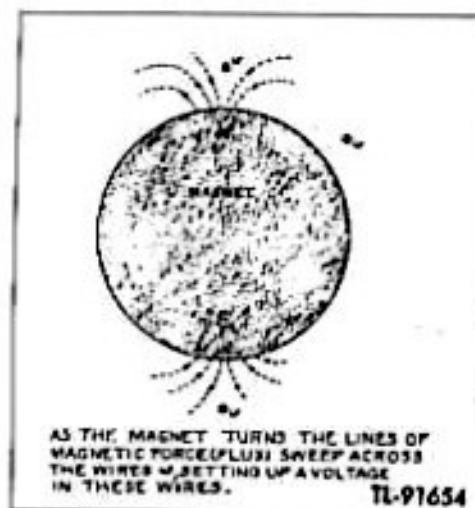
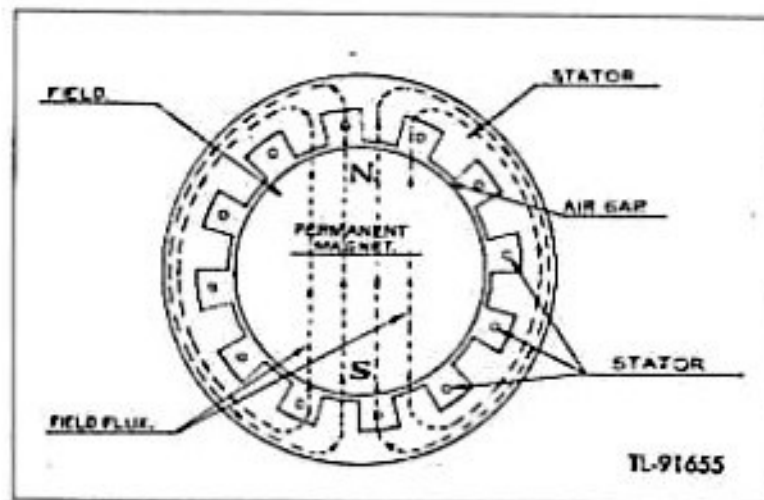

Fig. 5—Generator Rotor
Fig. 6—Generator Stator
c. A simplified diagram of the rotor (fig. 5) shows the lines of magnetic flux leaving the north pole and entering the south pole. When such a rotor is placed within a stator which has copper wire windings in its slots (fig. 6), the magnetic flux lines pass through the iron core of the stator and between its windings. When the rotor is turned by the engine, these magnetic flux lines sweep past the stator windings and generate a voltage in them, the value of which depends on:
- (1) Strength of the rotating magnet.
- (2) Number of turns of wire in the stator.
- (3) Speed of rotation.